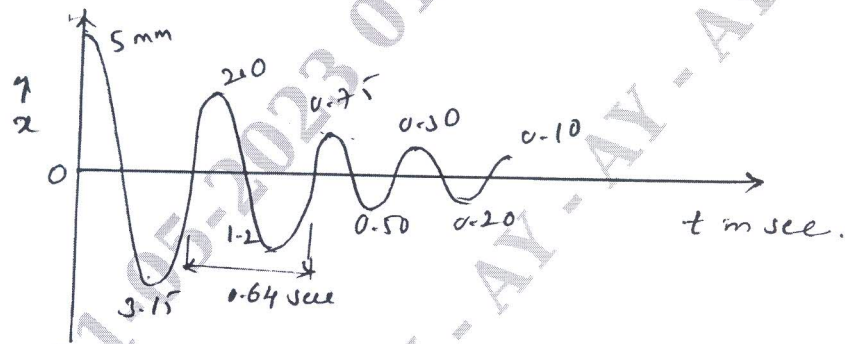

Fig.Q3(b)
b. Free vibration records of 1 tonne machine mounted on an oscillator is shown in Fig.Q3(b). Identify the type of oscillator and its characteristics.